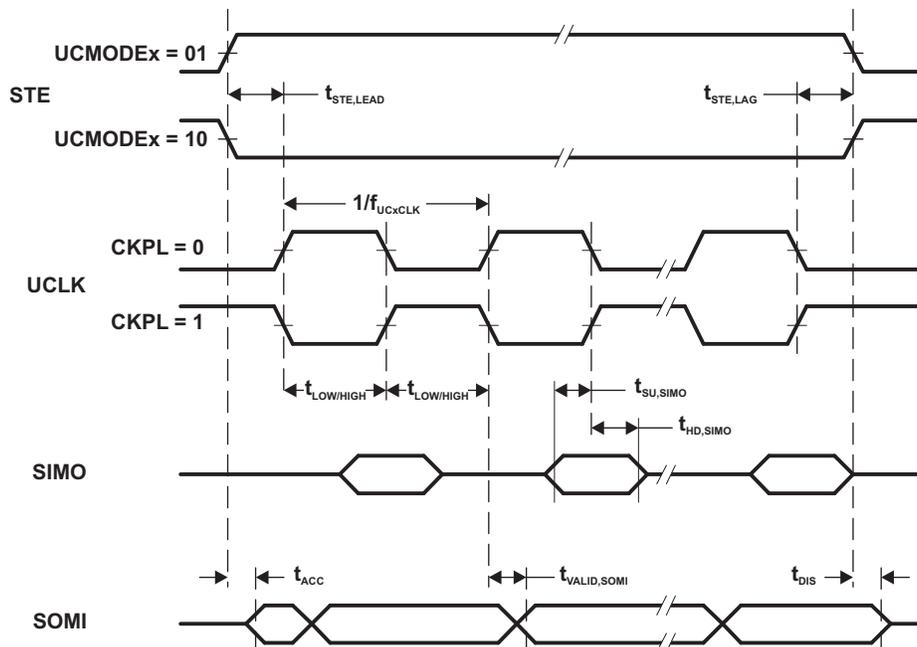
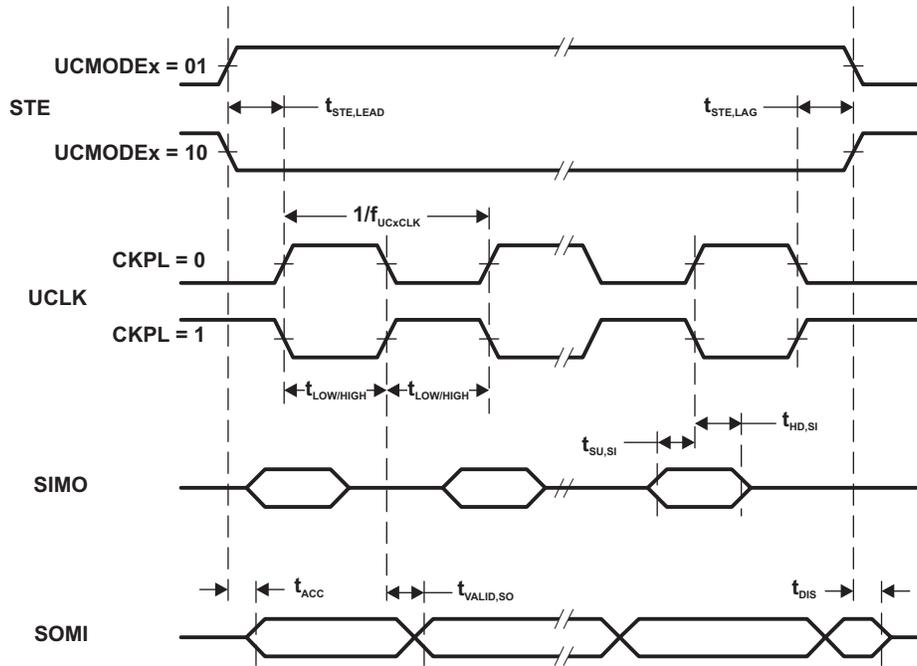

Figure 15. SPI Slave Mode, CKPH = 0
Figure 16. SPI Slave Mode, CKPH = 1
- (2) Specifies the time to drive the next valid data to the SIMO output after the output changing UCLK clock edge. See the timing diagrams in Figure 15 and Figure 16.
- (3) Specifies how long data on the SIMO output is valid after the output changing UCLK clock edge. Negative values indicate that the data on the SIMO output can become invalid before the output changing clock edge observed on UCLK. See the timing diagrams in Figure 15 and Figure 16.
- (2) Specifies the time to drive the next valid data to the SOMI output after the output changing UCLK clock edge. Refer to the timing diagrams in Figure 15 and Figure 16.
- (3) Specifies how long data on the SOMI output is valid after the output changing UCLK clock edge. Refer to the timing diagrams in Figure 15 and Figure 16.